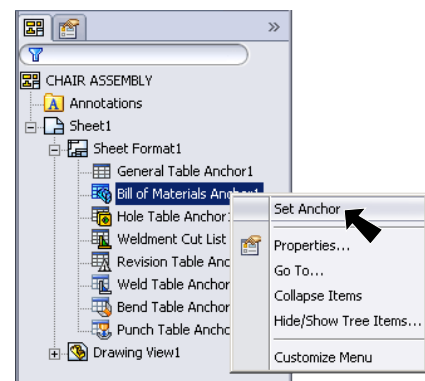

Fig. 3
Step 1. Expand **Sheet Format1** in the Feature Manger, **right click Bill of Materials Anchor1** and click **Set Anchor**, **Fig. 3**.